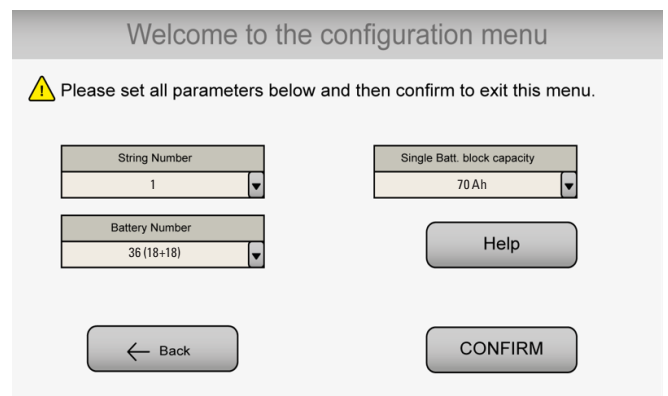

Fig. 42. Second LV equipment configuration screen.
- At this point, with no active alarm, green LED of Input Voltage OK (**a**) (see Fig. 42), should light in all UPSs.
- Start up the inverter, by means of the keypad (**3**) (see Fig. 42). In parallel systems make the procedure equipment by equipment the first time or after complete shutdown, in order to establish the communications among each unit of the system.
- Make sure that the inverter on LED indication **(c)** lights (green), and bypass LED **(b)** is turned OFF in all UPSs (see Fig. 42).